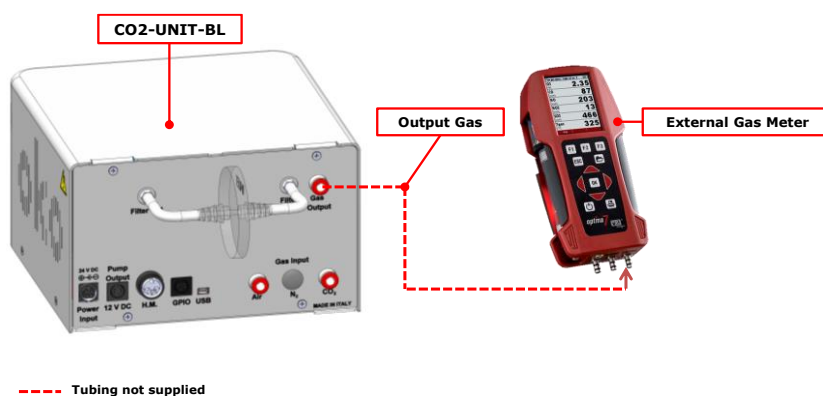

Figure 24. External Gas Meter Connection
2. Connect the external Gas meter as shown above (see Figure 24). The Gas Meter will read same gas levels that are going into the Top Stage Incubator.